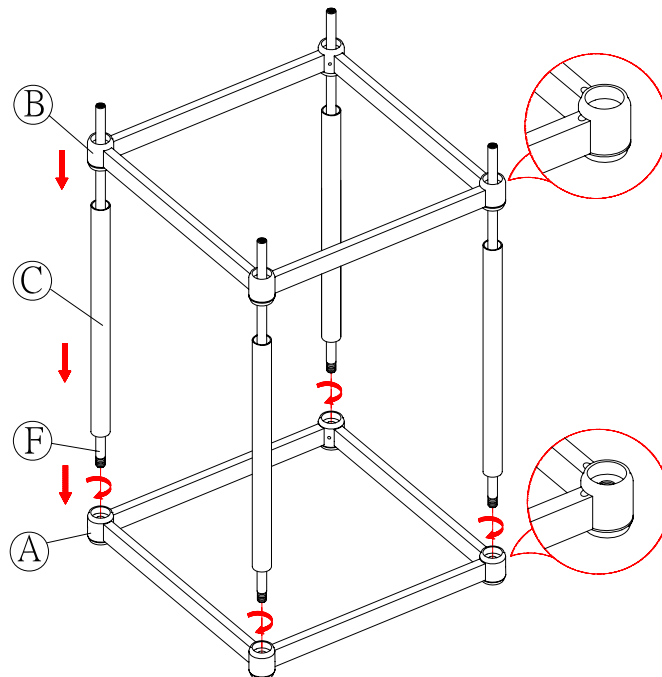

Fig. 1
1. Carefully remove all parts and hardware from the box and lay out on a clear workspace. Place the top metal frame (A) upside down on a carpet or scratched-free surface. Insert the metal rods with 12mm thread (F) into the threaded holes on the corner of the metal frame. Turn the metal rods in the clockwise direction until tightened.
2. Gently put (4) long metal tubes (C) and a middle metal frame (B) down through the assembled metal rods. Note the water drill holes on the metal frame should be face up at the moment (Fig. 1).